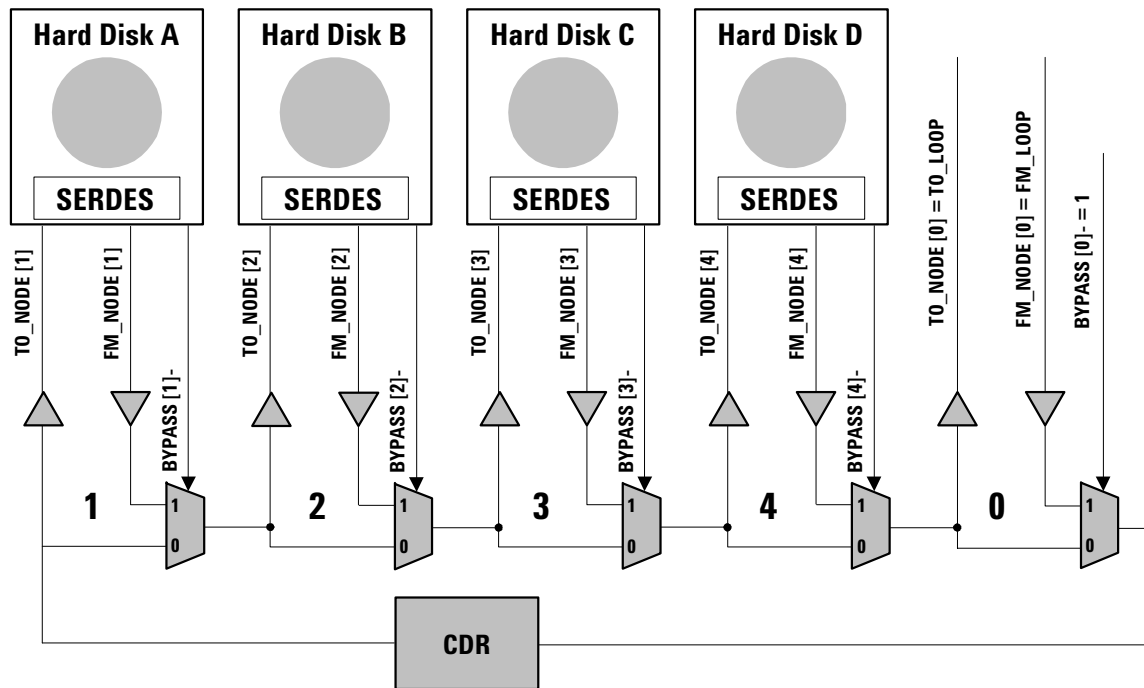
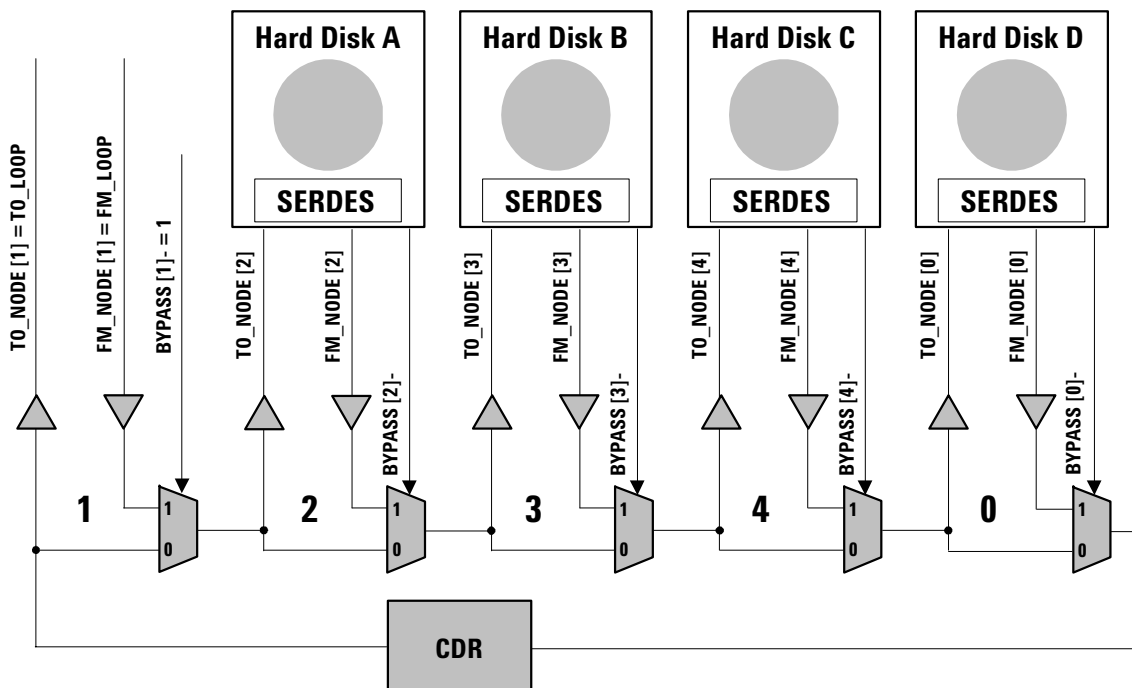

Figure 2 - Connection Diagram for CDR at First Cell
Figure 3 - Connection Diagram for CDR at Last Cell
HDMP-0552’s TO_NODE[n]± differential output pins to the Disk Drive Transceiver IC (for example, an HDMP-263x) Rx± differential input pins. Data from the Disk Drive Transceiver IC Tx± differential output pins goes to HDMP-0552’s FM_NODE[n]± differential input pins. Figure 2 and Figure 3 show connection diagrams for disk drive array applications. When the “disk bypassed” mode is selected, the disk drive is either absent or nonfunctional, and the loop bypasses the hard disk.
The design of HDMP-0552 allows for placement of the CDR at any location with respect to hard disk slots. For example, if BYPASS[0]- pin is tied to V_{CC} and hard disk slots A to D are connected to PBC cells 1 to 4 in the same order, the CDR function is performed at entry to the HDMP-0552 (Figure 2). To achieve a CDR function at exit from the HDMP-0552, BYPASS[1]- must be tied to V_{CC} and hard disk slots A to D must be connected to PBC cells 2, 3, 4, 0 in that order (Figure 3). Table 3 shows all possible connections. In case of CDR at entry, a Signal Detect (SD) pin shows the status of the signal at the incoming cable. The recommended method of setting the BYPASS[i]- pins HIGH is to drive them with a high-impedance signal. Internal pull-up resistors force the BYPASS[i]- pins to V_{CC}.